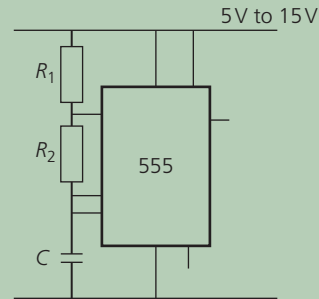

Figure Q10
6. The circuit in Figure Q10 shows a 555 timer configured as an astable, with $R_1 = 1 \text{ k}\Omega$, $R_2 = 2 \text{ k}\Omega$ and $C = 10 \mu\text{F}$.